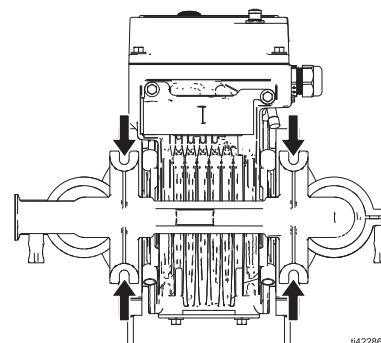

FIG. 5: Mounting Holes
3. For all mountings, be sure the pump is secured with fasteners through the mounting holes on the base. See FIG. 5. See **Dimensions**, starting on page 41.
To avoid pump damage, mount the pump to the mounting location using fasteners through each hole of the feet. See FIG. 5.